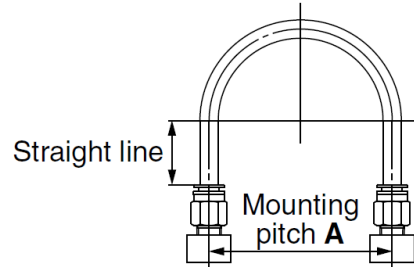

Fig. 1 Recommended piping
- 1) When connecting piping to the One-touch fitting, use pipe length with sufficient margin, in accordance with the piping conditions shown in Fig. 1.